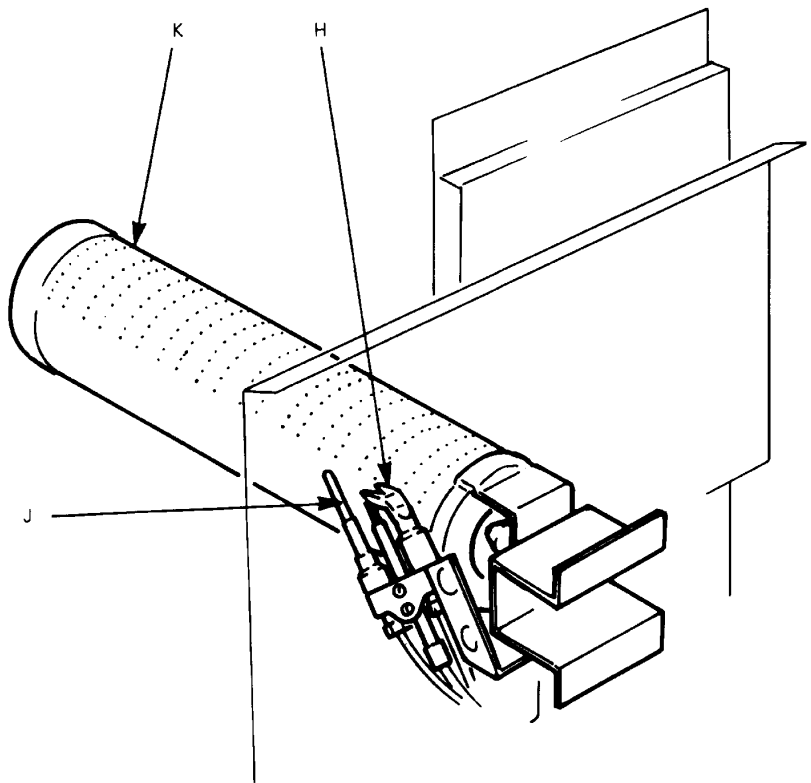

Fig. 7
## LIGHTING THE BURNER - See Fig. 7
- Ensure that the thermostat knob **D** is at the O position Fig. 7.
- Keeping control knob **B** depressed fully simultaneously press Piezo Spark Generator **C** repeatedly until the pilot flame lights. This is visible through the sight glass **F** (Fig. 7) (A few seconds must be allowed for the gas to reach the pilot burner).
**NOTE:- THIS APPLIANCE IS FITTED WITH A COMBUSTION DISCHARGE SAFETY DEVICE WHICH WILL SWITCH OFF THE MAIN BURNER IN ADVERSE FLUE CONDITIONS. BEFORE TURNING ON MAIN BURNER ENSURE THAT THE MANUAL RESET BUTTON IS DEPRESSED. (FIG. 7).**